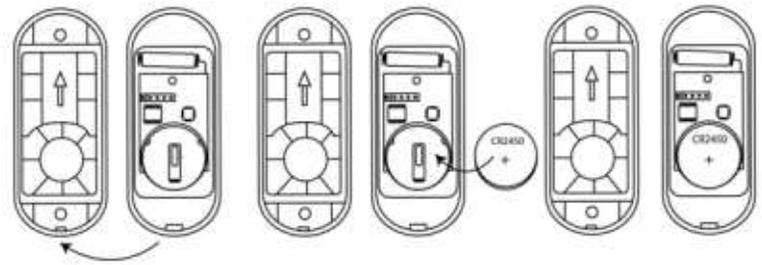

Figure 2
2. Remove top part of case from lower part of case (figure 2).
3. Install the included CR2450A battery into the holder with positive (+) side of the battery facing up (figure 2).